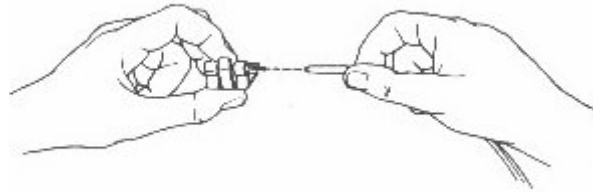

Figure 2-4. Thermistor Clip
2. Slide the yellow lead of the fan assembly power cable containing the thermistor into the thermistor clip (Figure 2-4).